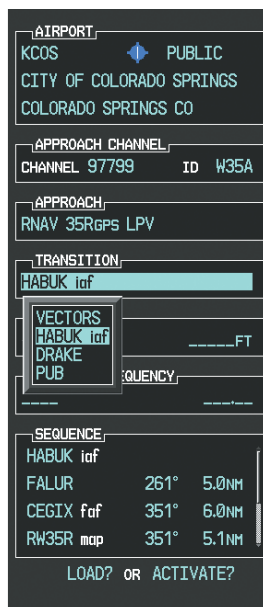

Figure 5-126 List of Available Transitions
e) Press the **ENT** Key. A list of available transitions for the selected approach is displayed as in Figure 5-126.